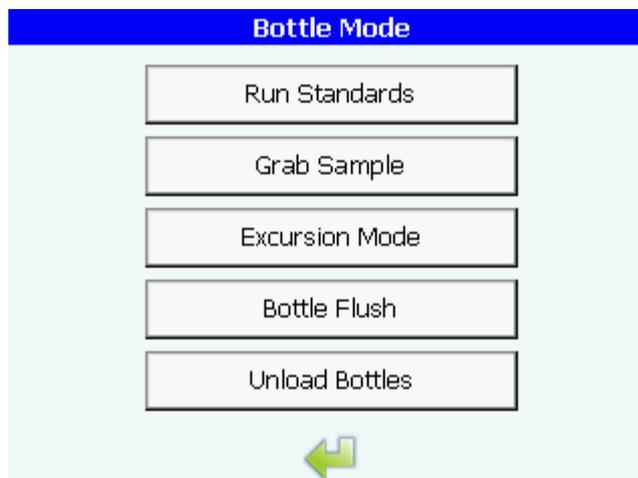

Figure 6-1 Bottle mode dialog box
The bottle mode dialog box allows you to perform procedures using the bottles in the bottle bay. You may run calibrations, validations, or system suitability tests, analyze samples from a bottle (grab sample), or install an excursion bottle to capture a sample when a TOC measurement exceeds an alarm limit, a conductivity alarm occurs, specific alarm conditions occurs, or manually. See Figure 6-1.
- 3) Touch the run standards button in the bottle mode dialog box. See Figure 6-1, page 86.